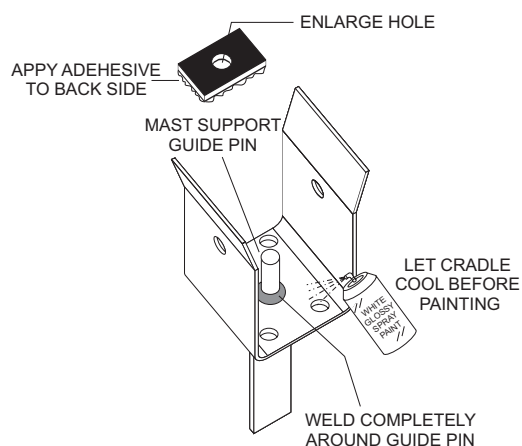

Figure 6. Mast Support Guide Pin Welding
6. Using either the stick or MIG wire feed method of welding; weld area around mast support guide pin (Figure 6). Locate welder ground clamp as close to the mast support cradle as possible.
9. Enlarge hole on black rubber support pad (Figure 6) to accommodate for the additional welding. Place adhesive on backside of pad and reinstall back into support cradle.